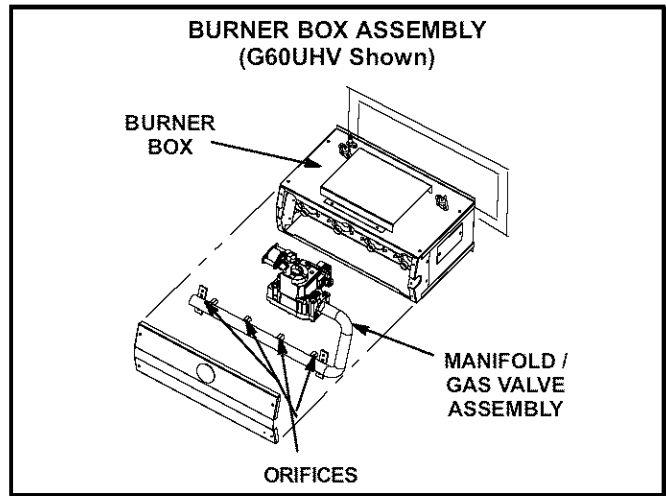

Figure 1
- 4 - Remove the four manifold securing screws. Remove the manifold/gas valve assembly. Replace the main burner orifices with the provided orifices (.086). See figure 1.